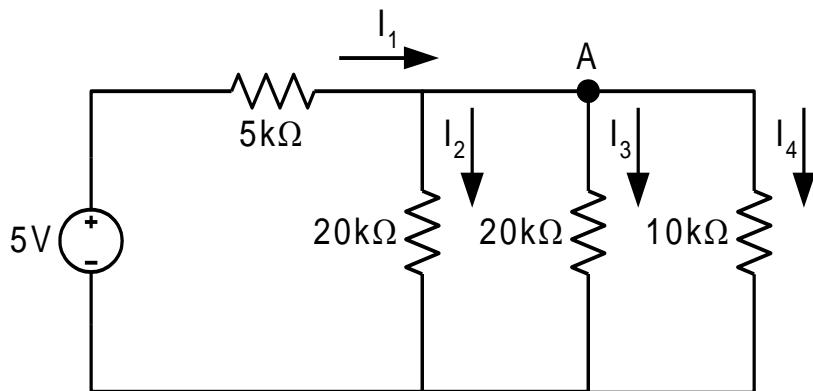

Figure 10: Second Circuit for Circuits I Lab
5. Draw the circuit shown in Figure 10 above in the box provided in the Lab Report. Include where you will place ammeters (denoted by an "A" inside a circle; include the positive and negative terminals) to measure I_1 , I_2 , I_3 , and I_4 . You will have more than one ammeter in your circuit.